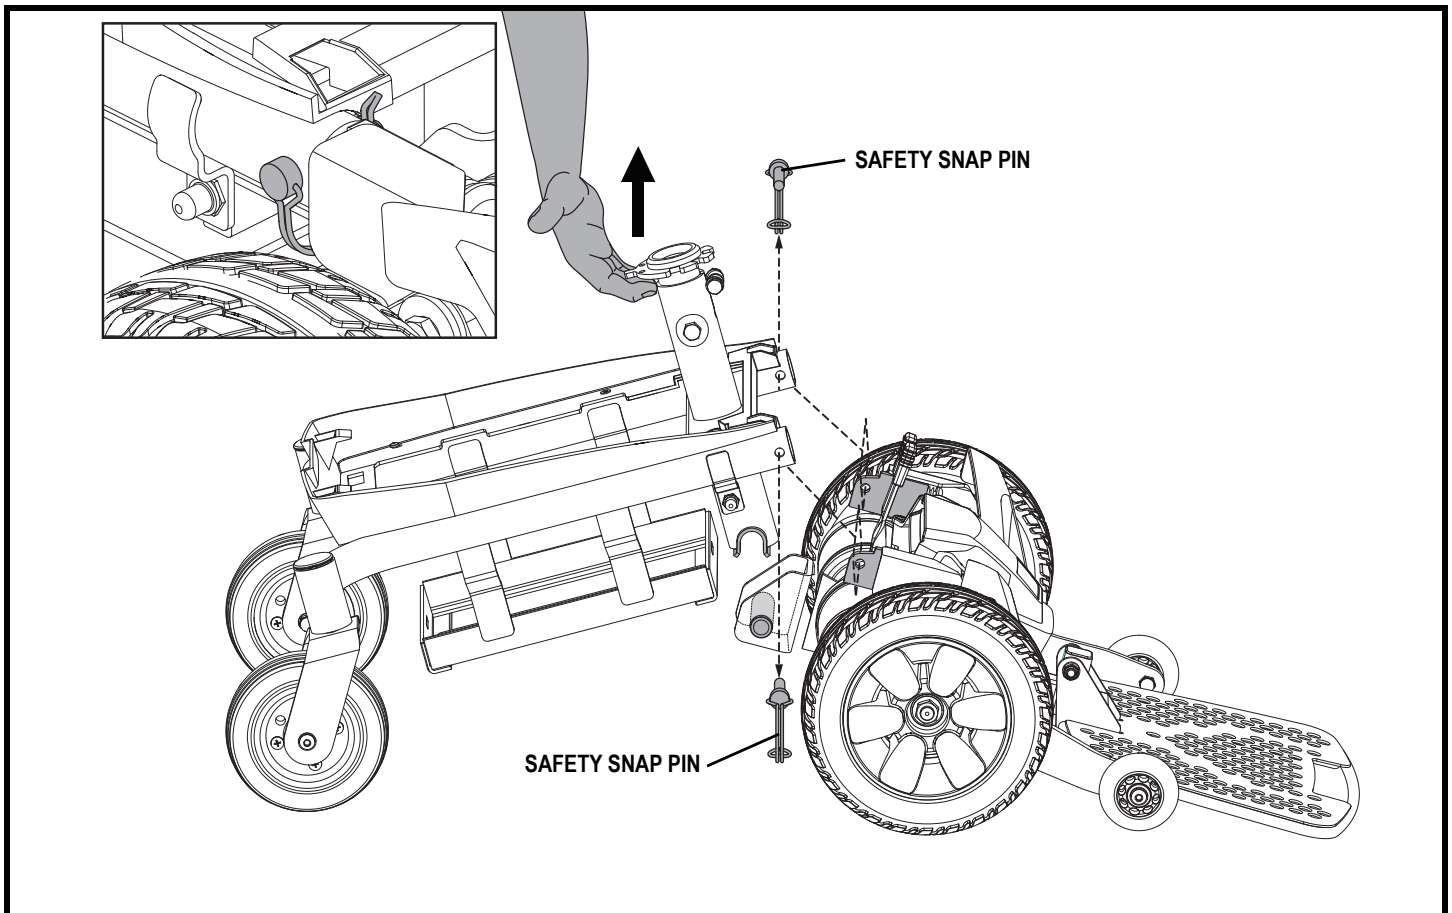

Figure 9. Separating the Jazzy Elite ES Portable power base
The Jazzy Elite ES Portable disassembles into several components: the seat, the shroud, the batteries, the rear section of the power base, and the front section of the power base. See **figure 9**.
10. Remove the safety snap pins that connect the rear section of the power base to the front section of the power base. See **figure 9**.